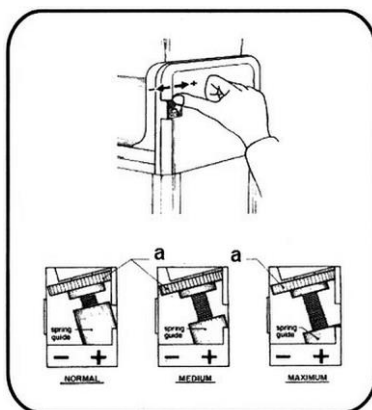

Fig. 3
1. For milk or other products that require a longer time to freeze, change the setting to **'medium'** or **'maximum'** by turning the adjusting wheel (a) in the "+" direction as shown in Fig. 3.